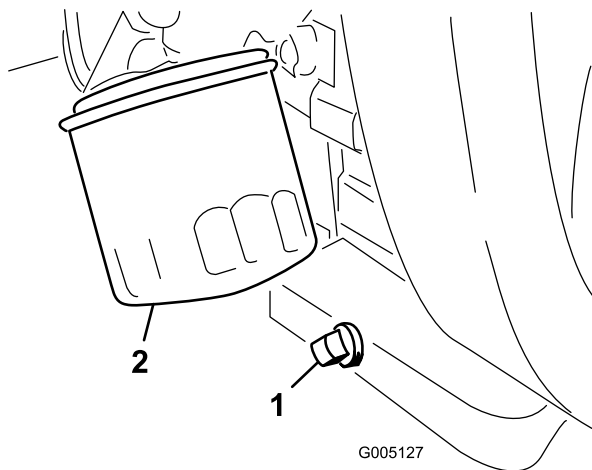

Figure 45
1. Remove the drain plug (Figure 45) and let oil flow into a drain pan. When the oil stops, install the drain plug.
2. Remove the oil filter (Figure 45). Apply a light coat of clean oil to the new filter gasket.